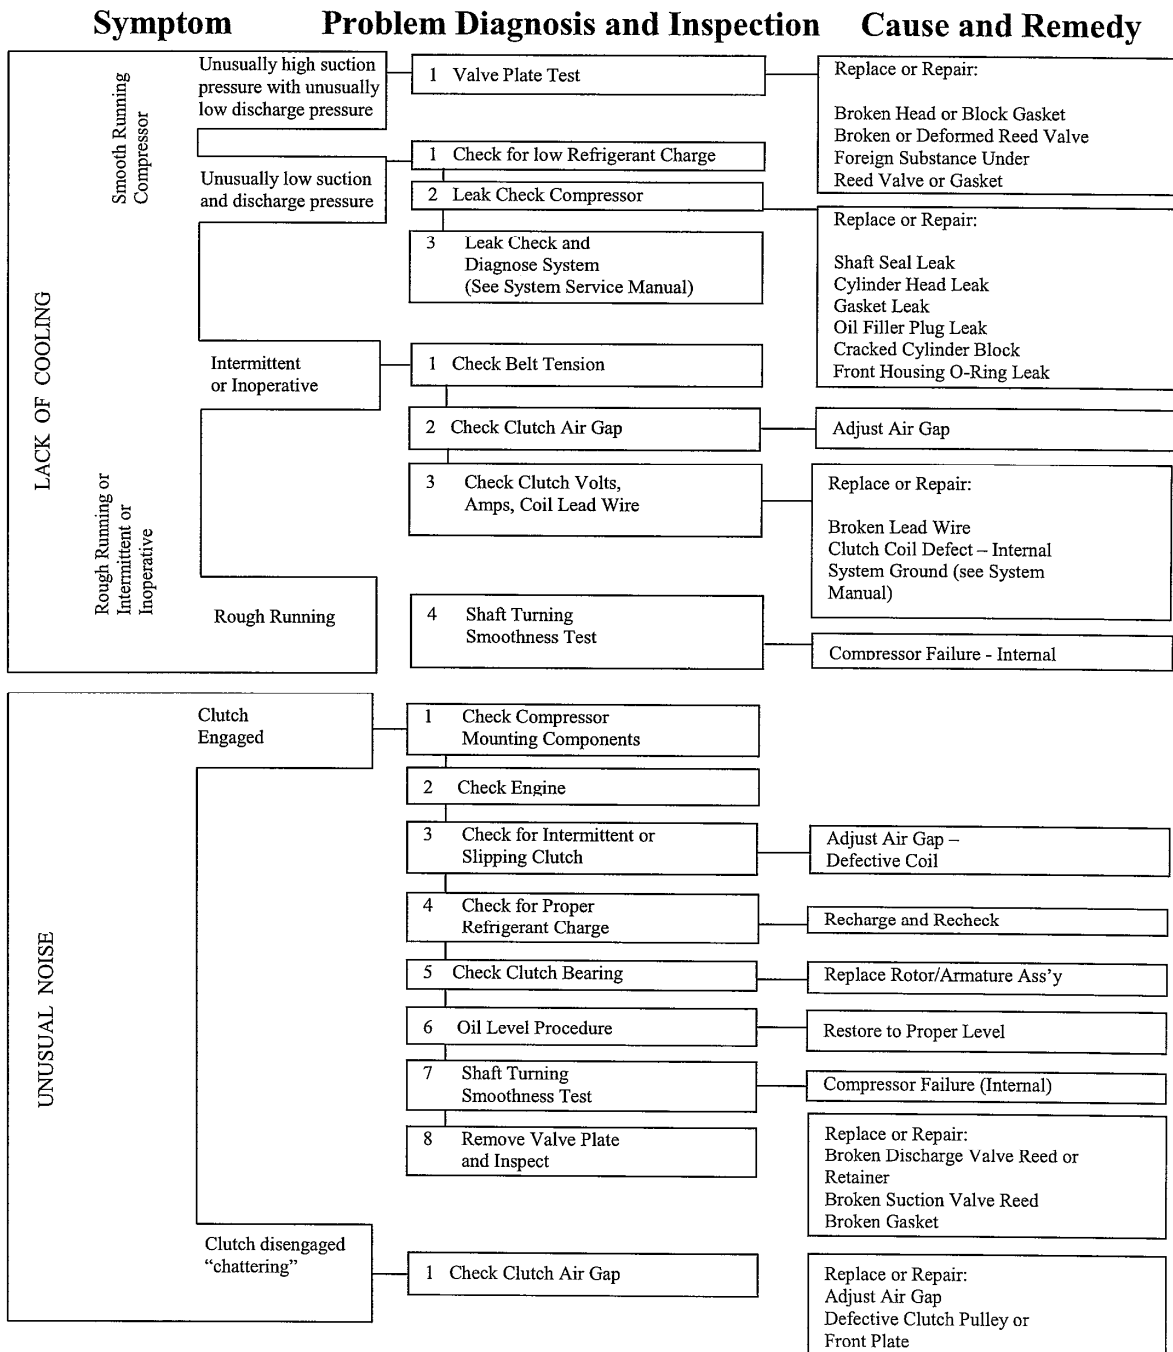

Figure 10 Troubleshooting Chart
29. **Troubleshooting Procedures.** Figure 10 refers specifically to the Sanden compressor. During diagnosis, follow the inspection procedures in the sequence shown until a defect is found. Then perform the repair in the 'Cause and Remedy' section of the chart. If this repair does not fully solve the problem, proceed to the next inspection step.